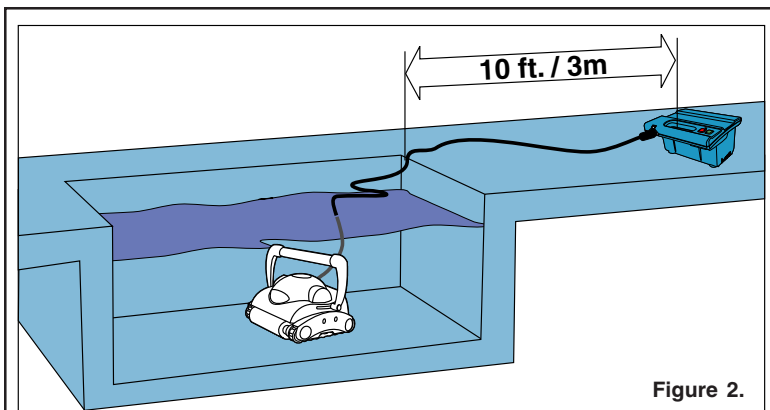

Figure 2.
1. Place the power supply, (transformer), at least ten feet / three meters from the pool as shown in Figure 2. The transformer will supply low voltage to the cleaner.
4. Place the unit in the water. Turn the unit side to side in the water to allow air to escape from the body and then let the cleaner sink to the bottom of the pool, see Figure 6. Then, spread the cable over the surface of the pool as evenly as possible as shown in Figure 2.